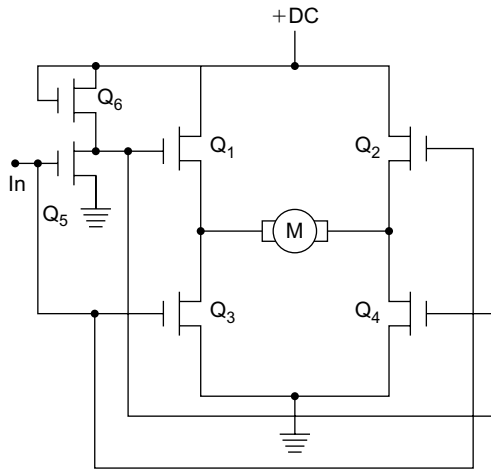

FIGURE 12.20 Using an H-bridge circuit to reverse the current flow and direction of rotation in a DC motor.
Incidentally, the direction of rotation is determined by the polarity of the DC voltage. Reversing the polarity reverses the magnetic field, thus changing the direction of rotation. Figure 12.20 shows a neat circuit used to change the direction of rotation of a DC motor. This is called an H-bridge and is made up of MOSFET switches. Q_2 and Q_3 are turned on by a positive input voltage IN. Q_5 inverts this voltage to zero, which keeps Q_1 and Q_4 off. Therefore, current (electrons) flows from ground through Q_3 through the motor (M) from left to right through Q_2 . Setting the input to zero turns off Q_2 and Q_3 and turns on Q_1 and Q_4 . Now current flows from ground through Q_4 and the motor from right